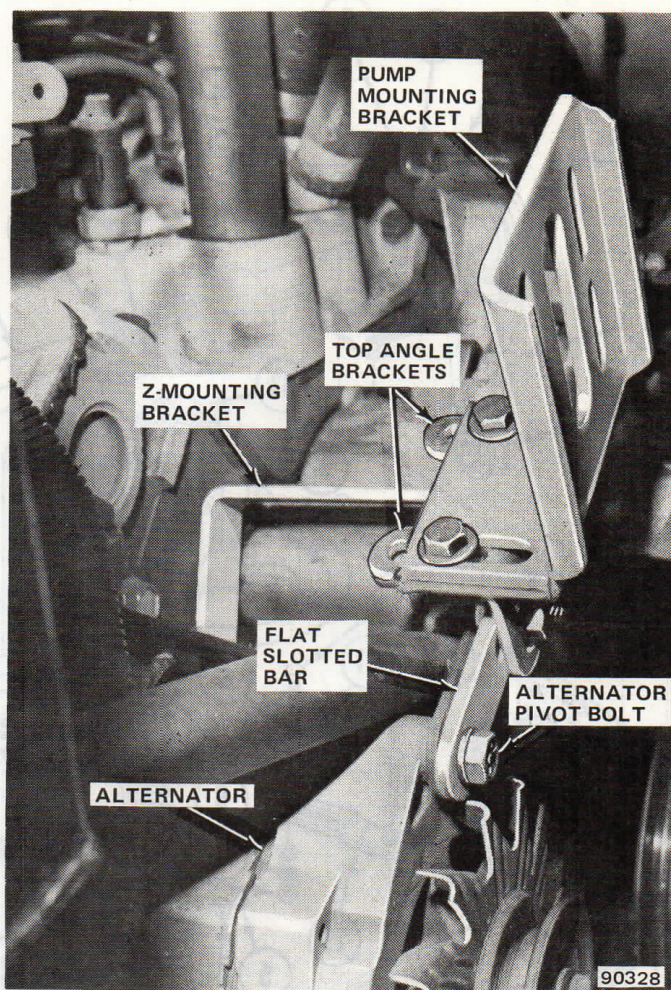

Fig. 1-28 Pump Bracket Installation
- (1) Attach flat slotted bar to alternator pivot bolt (fig. 1-28).
- (2) Remove water pump bolt at point just above heater hose connection on water pump.
- (3) Attach offset bar to water pump using bolt removed in previous step. Do not tighten bolt.